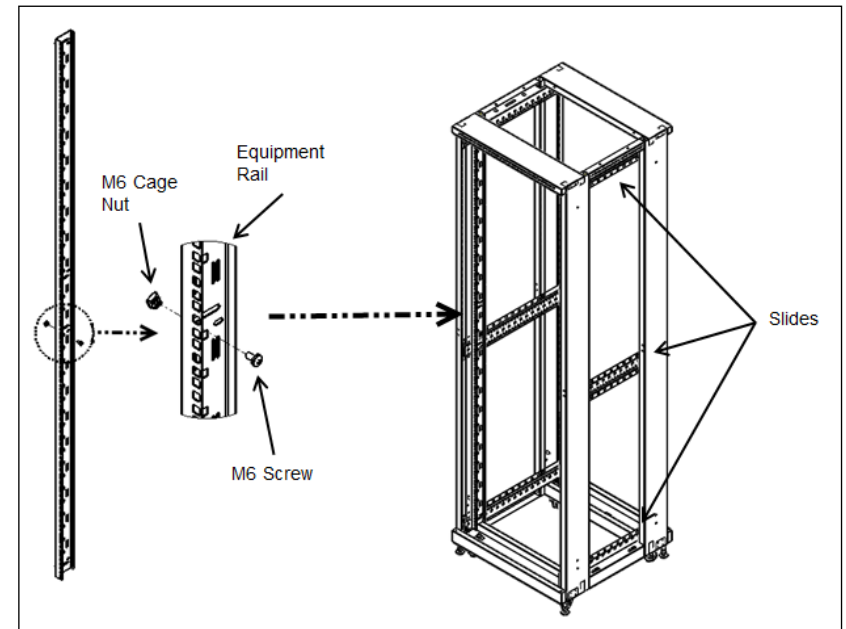

Figure 1
1. The equipment rail attaches to the cabinet slides (Figure 1).